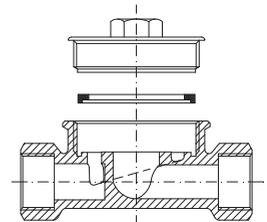

Fig. 2
- FMHs are delivered with an inserted sealing ring and with a screwed in cover (see Fig. 1). For FMHs with threaded connection, continue with No. 7.3. For FMHs with soldered connection: Remove mounting aid, cover and sealing ring. Solder the connections and allow them to cool down. Insert the sealing ring into the FMH below the head thread into the groove, provided and carefully screw the cover tightly and install the mounting aid (see Fig. 2).